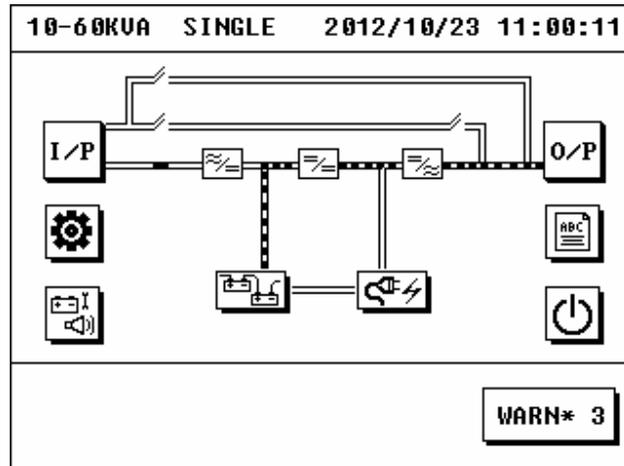

Figure 3.10 Battery Mode
5. Close output breaker, and then the UPS output is normal and starting by battery is finished. Its energy flow is shown in figure 3.10: